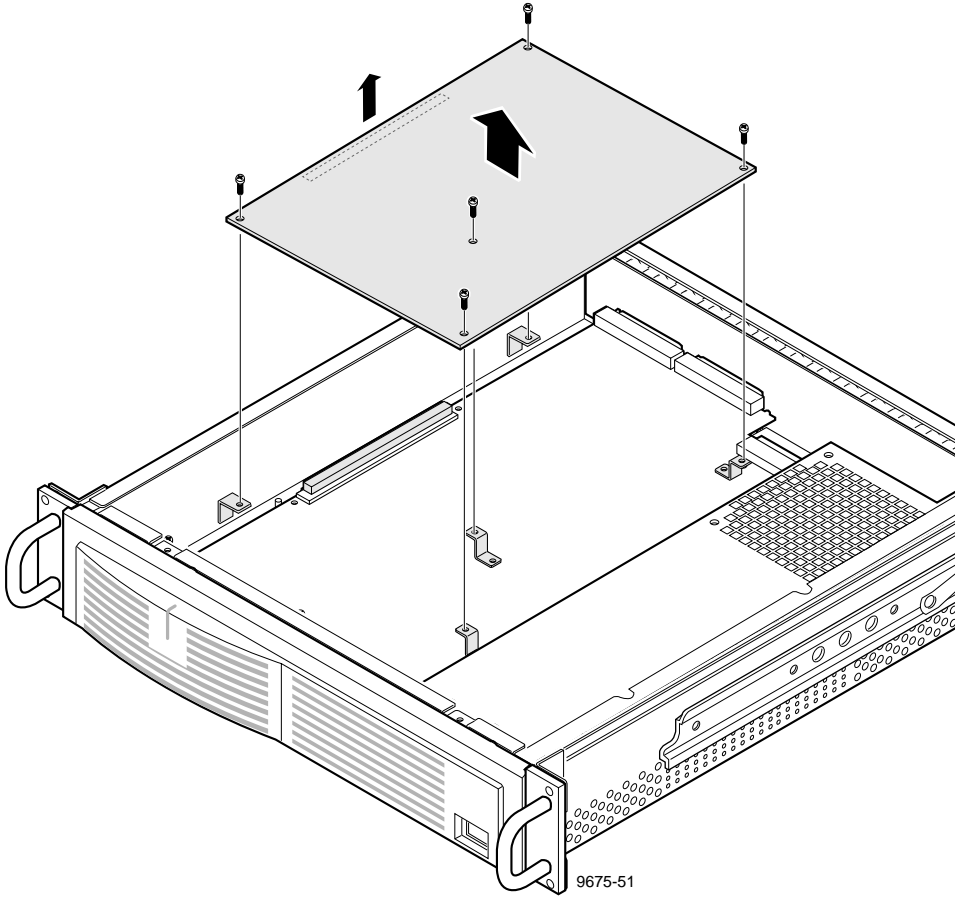

Figure 6-36. PAC208/216 Daughter Board Removal
2. Use the Torx tool with the T15 tip to remove the screws which secure the Daughter Board to the stand-offs on the Main Board (Figure 6-36).
1. Carefully connect the Daughter Board to the connector on the Main Board and align the screw holes in the Daughter Board with the stand-offs on the Main Board (Figure 6-36).